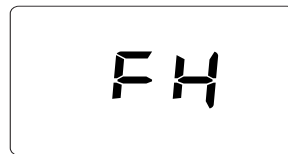

fig. 6- Vent with fan on
- For the following 20 seconds the display will show FH which indicates the heating system air venting cycle with the fan operating (fig. 6). The internal pump will cycle on & off during this period.